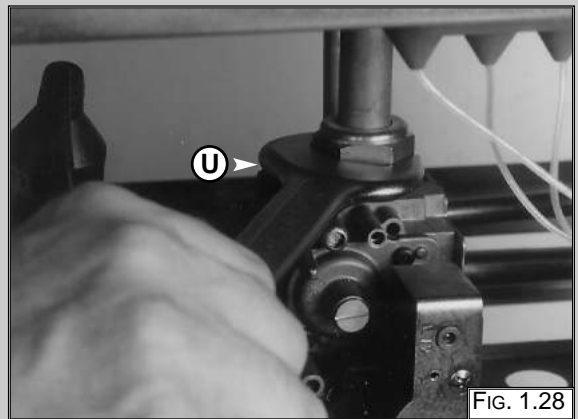

FIG. 1.28
3. Release the top nut "U" (FIG. 1.28);